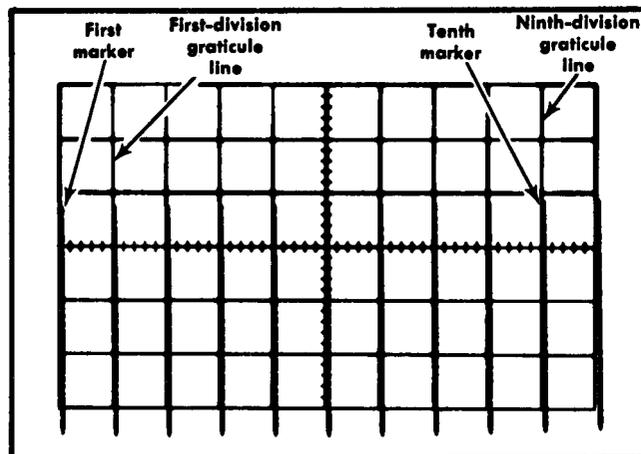

Fig. 5-17. Typical CRT display showing correct A sweep timing.
- a. CHECK-Using the A TIME/DIV switch and time-mark generator settings given in Table 5-2, check A sweep timing within 0.24 division, over the middle eight divisions of the display (within 3%). Fig. 5-17 shows a typical CRT display when checking sweep timing.